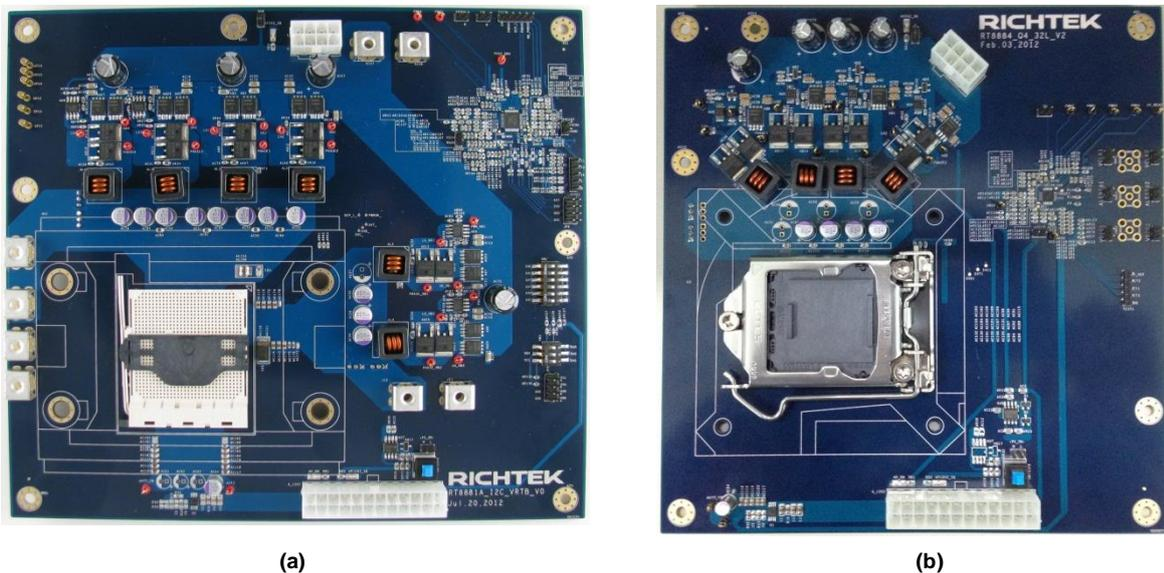

Figure 1. Richtek's emulation board for different CPU generation.
1.2. Voltage Regulator (VR)
Microprocessors are becoming increasingly powerful. In other words, the power consumption is dramatically increasing. In order to satisfy the high current and low voltage power demand from the microprocessor, the multi-phase voltage regulator (VR) is used. Figure 1 is Richtek's emulation board for different CPU generation. Figure 1(a) shows the picture for CPU power solution of AMD SVI2 processor, and Figure 1(b) shows the picture for CPU power solution of Intel VR12.5 processor.